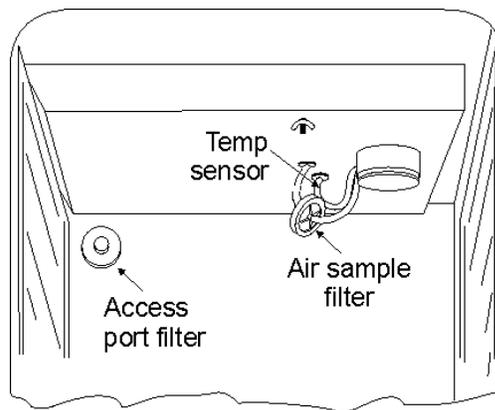

Figure 1-9
Locate the opening in the top left corner of the interior chamber. Remove the tape from the opening on the outside of the unit. Locate the stopper with filter in the hardware bag. Install in the opening inside the chamber. See Figure 1-9.
- Insert the free end of the air sample filter tubing into the larger hole in the back of the blower scroll. See Figure 1-9 for completed configuration.